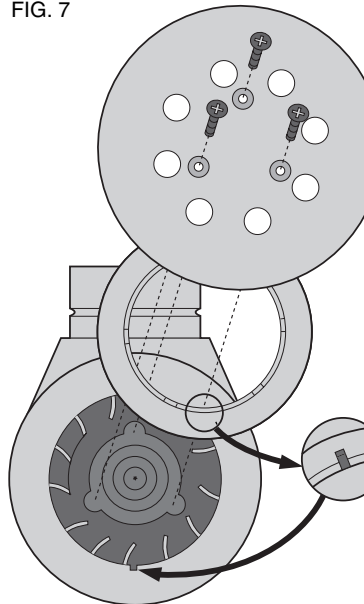
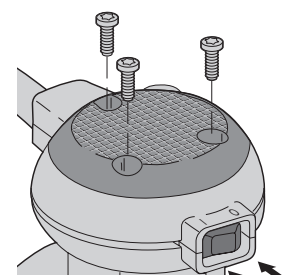

FIG. 10A (DW420 AND DW421 ONLY)
FIG. 10B (DW423 ONLY)
2. Lift off the top cap. Observe the brush holders and wires leading from the brushes to the motor field, as shown in figure 10A and 10B. (**NOTE:** On the DW423, the speed dial must be moved out of the way to access brush holder as shown in figure 10B.)